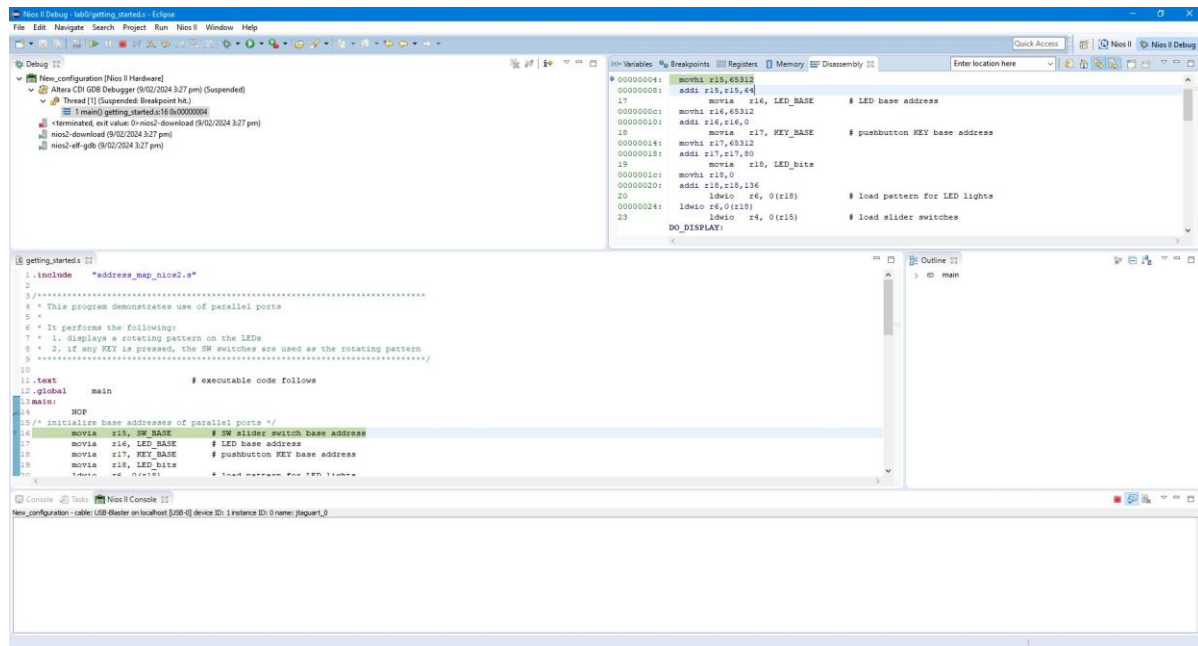

Figure 10: Added Disassembly viewer
1. Single step the program up to the delay loop (you can do that with step into or step over highlighted in Figure 10):